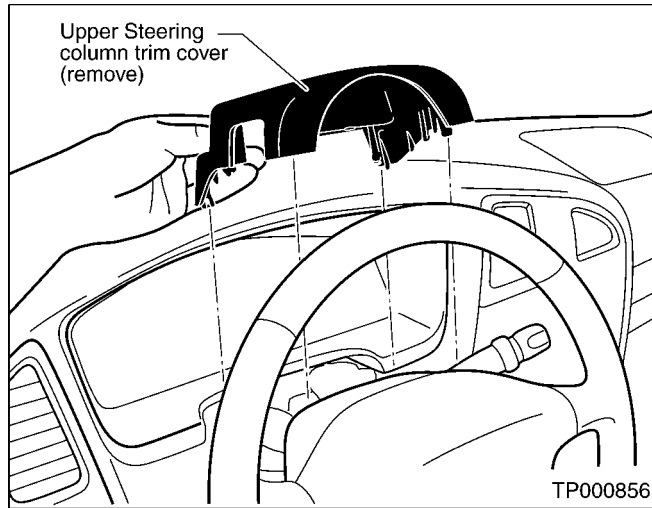

Figure 3
3. Remove the upper steering column trim cover (see Figure 3).